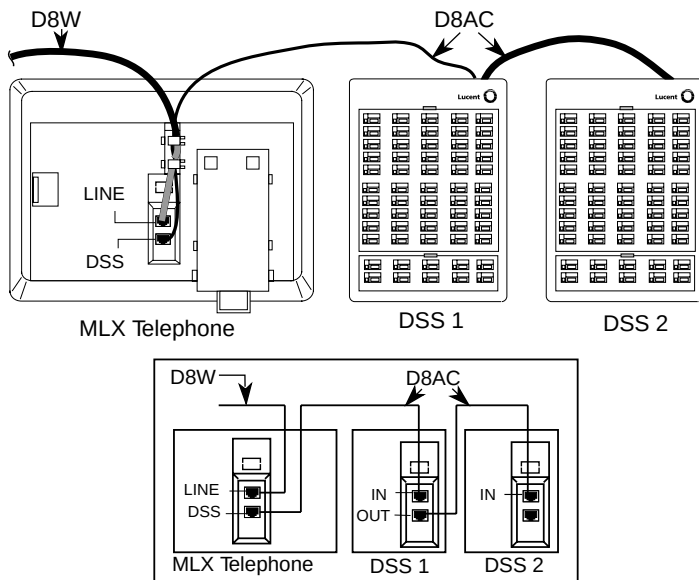

Figure 3-28. Connecting One or More DSSs
► **3. Wire the two DSSs. See Figure 3-28.**
- **4. Wire the telephone to the DSS unit(s). See Figure 3-28.**